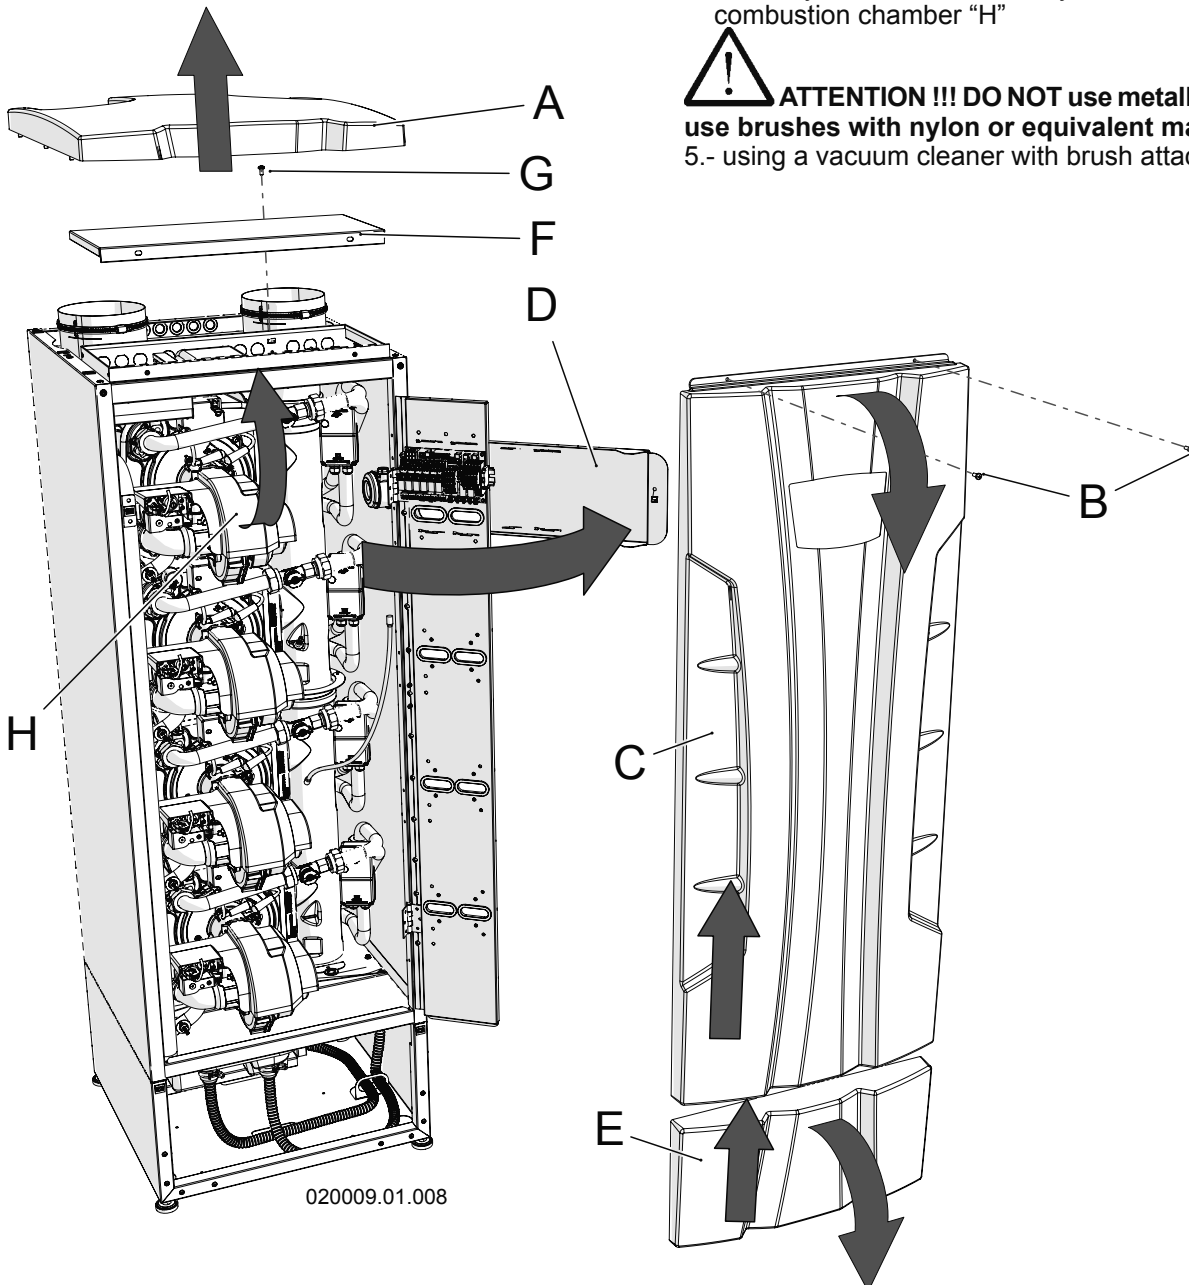

Figure 17-1 - Disassembling the casing and opening the control panel
To disassemble the casing, proceed as follows (refer to figure 17-1):
1. Follow the guidance given in section 17.2 to remove covering "E" in figure 17-1;